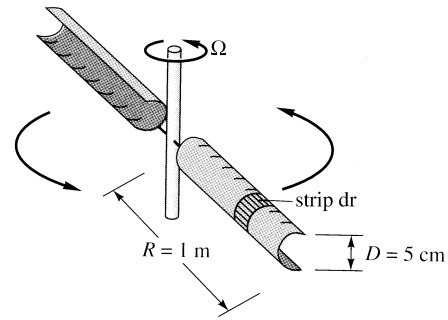

Fig. P7.94
**7.94** A rotary mixer consists of two 1-m-long half-tubes rotating around a central arm, as in Fig. P7.94. Using the drag from Table 7.2, derive an expression for the torque  $T$  required to drive the mixer at angular velocity  $\Omega$  in a fluid of density  $\rho$ . Suppose that the fluid is water at  $20^\circ\text{C}$  and the maximum driving power available is 20 kW. What is the maximum rotation speed  $\Omega$  r/min?
**Solution:** Consider a *strip* of half-tube of width  $dr$ , as shown in Fig. P7.94 above. The local velocity is  $U = \Omega r$ , and the strip frontal area is  $Ddr$ . The total torque (2 tubes) is